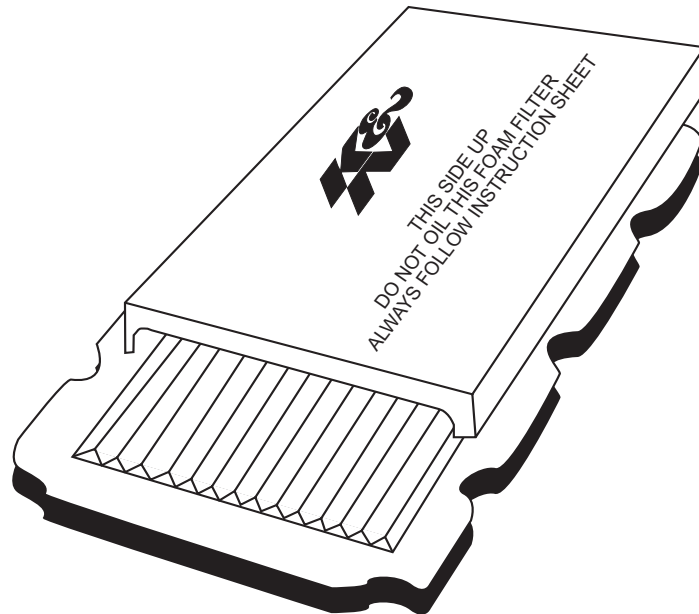

Fig. 1
5. Lay the provided foam pre-filter over the K&N Filtercharger®. (Fig. 1)